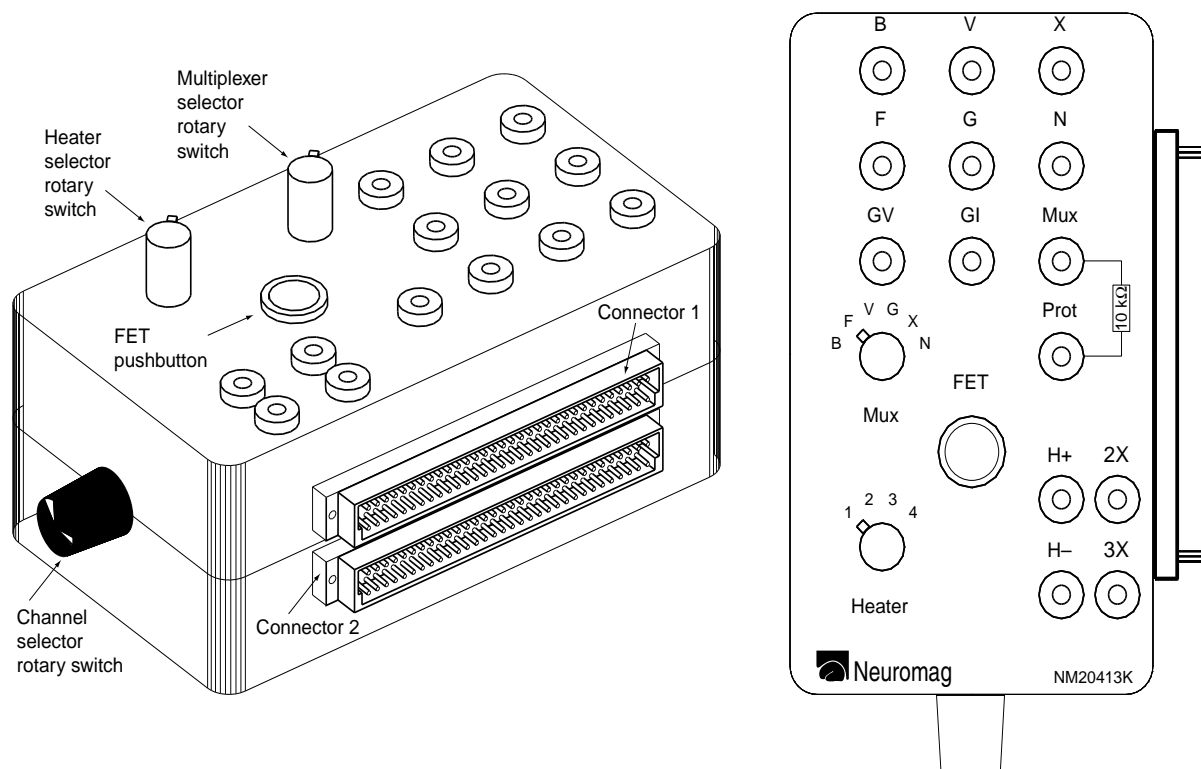

Figure 7.1 Insert wiring tester
- Wring tester NM20413K (See Figure 7.1 Insert wiring tester.)